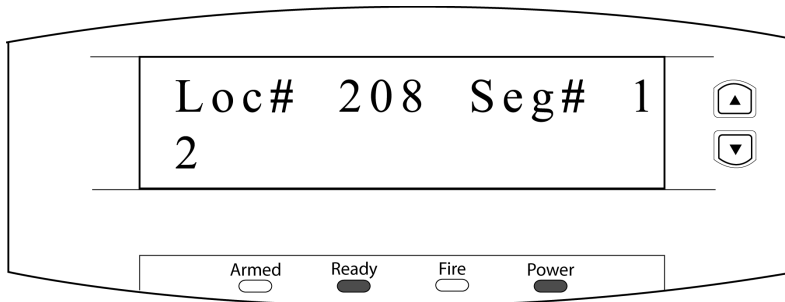

Figure 7: Alarm Panel - Location 208
2. After Location 207, enter Location 208 by either entering the location number followed by the **#** key or selecting the  key. Once Location 208 has appeared, select the **2** key for **9600 Baud** (the LCD should look similar to Figure 7).